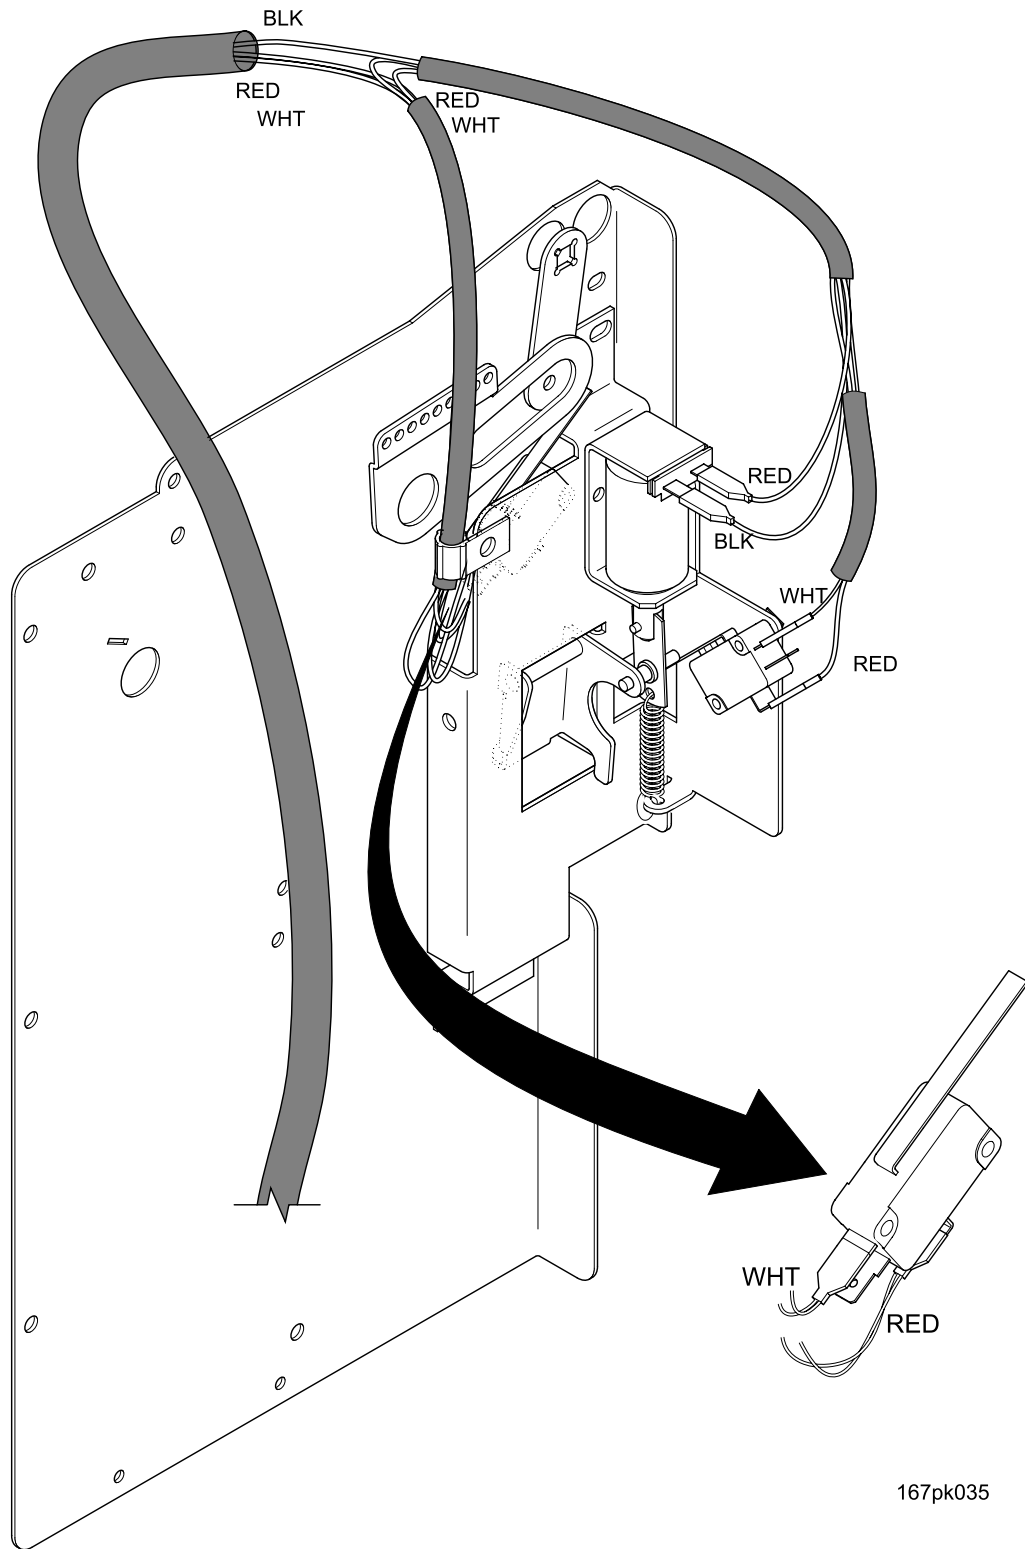

Figure 5
5. Connect the wire harness as shown (see figure 5).